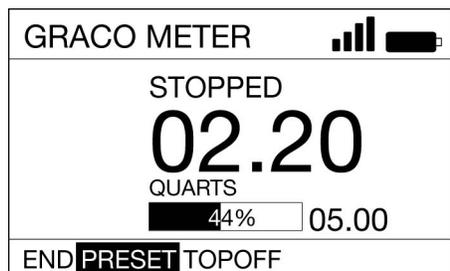

FIG. 30
4. Use the LEFT and RIGHT ARROWS to select PRESET (H) and press ENTER (FIG. 30).